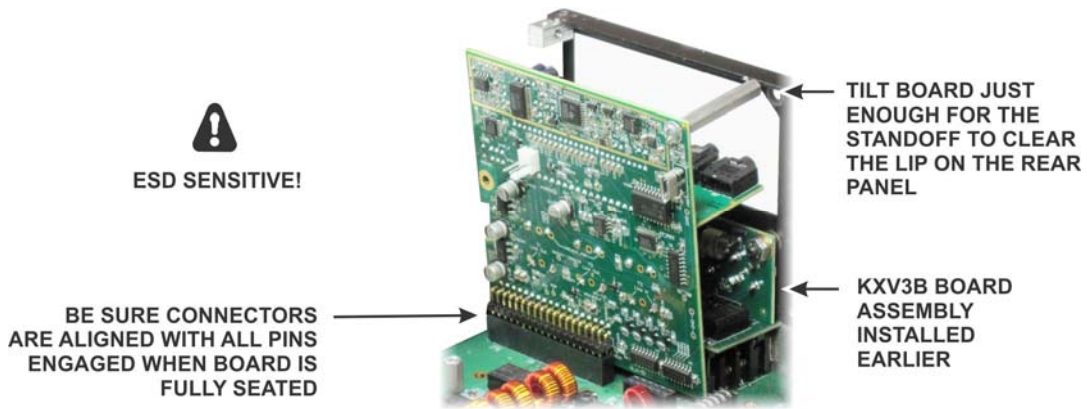

Figure 58. Installing KIO3B Main Board.
□ Install the KIO3B Main board with the Audio I/O daughter board attached into the K3S as shown in Figure 58. The KIO3B main board plugs into J76 on the RF board. The KXV3B coaxial TMP cable fits between the KXV3B and KIO3B boards. Ensure the connectors are fully mated so the standoffs line up with the screw holes on the rear panel.